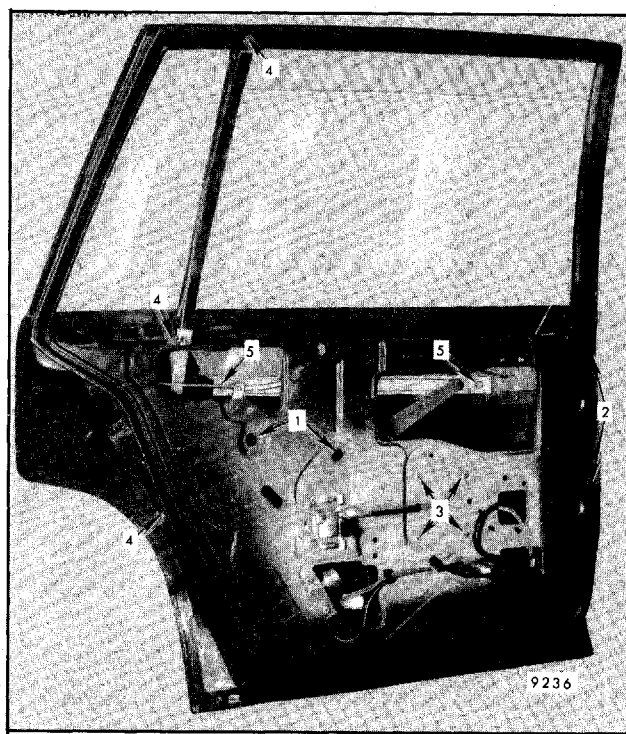

Fig. 5-138-Rear Door Window Hardware - B,C Styles
The inner panel cam (1, Fig. 5-138) can be adjusted to correct a rotated window. No other adjustments are provided.
2. With glass raised and supported, remove front run channel retainer (2, Fig. 5-138) and inner panel cam (1, Fig. 5-138).
3. Partially lower rear door window, remove sash channel cam to glass channel attaching screws (5, Fig. 5-138).
The stationary vent division channel is held in place by three attaching screws (4, Fig. 5-138). This assembly acts as a rear door window rear glass run